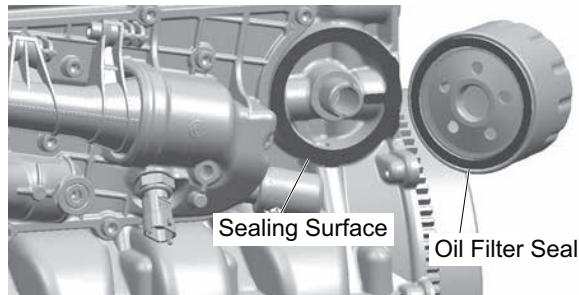

Fig. 7 Oil Filter
2. Clean the engine sealing surface with a clean cloth (Ref. Fig. 7).